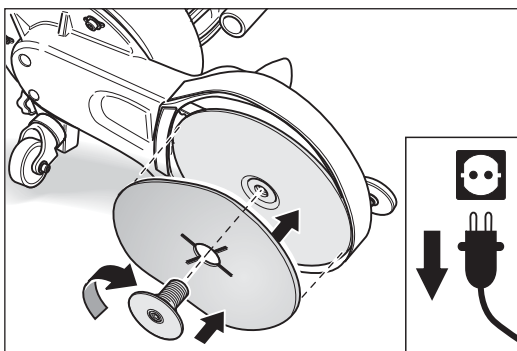

Fig. 48 Install the new sanding disc and then tighten the sandpaper tensioning screw firmly by hand.
- 6 Place a new sanding disc on the sanding disc wheel and insert the sandpaper tensioning screw into the sanding disc wheel. Make sure that the sanding disc is fastened in the best possible centred position on the sanding disc wheel (Fig. 48).